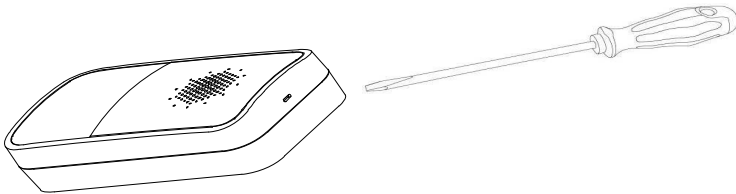

Figure 4-13
Step 1. Please open device package, follow Figure 4-13. Use straight screwdriver to take down device rear cover.